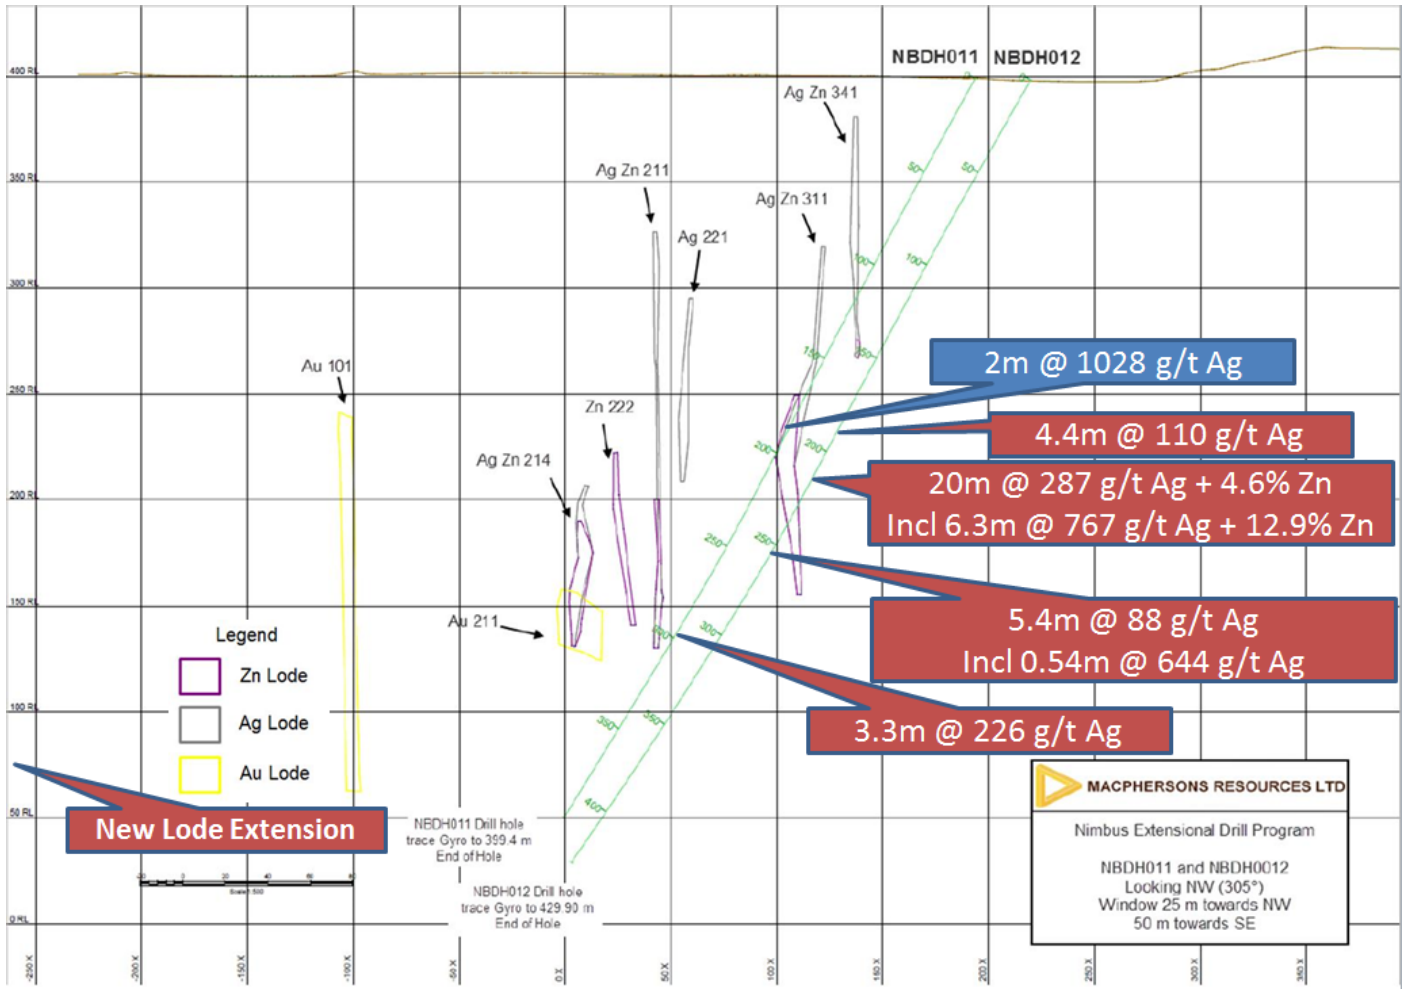

Figure 4 – Cross section showing new intersections assayed in diamond drillholes NBDH011 and 012.
- **New depth extensions** to known silver and zinc lodes intersected in both holes (see Figure 4), which **underpins underground mine model** and shows lens remain **open at depth**;